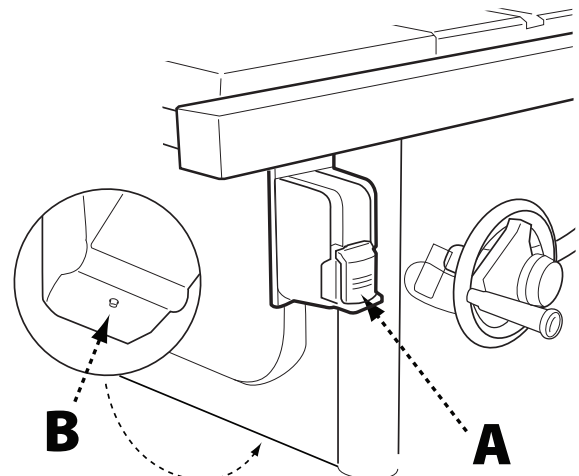

FIGURE 20
The POWER switch (Figure 20) is located underneath the front left extension wing.
reset button (B), on the motor under the saw, shown in Figure 20, and restart the saw.